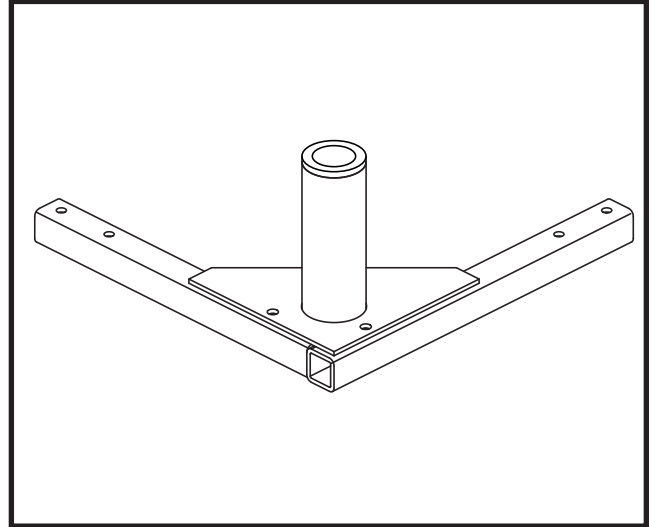
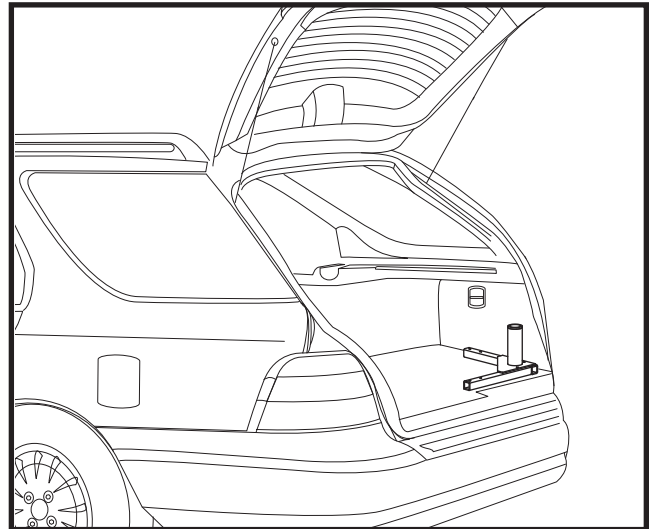
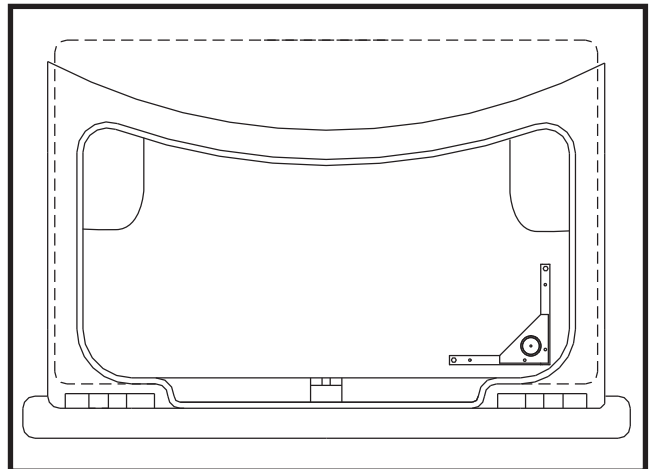

Figure 1. L-Base Assembly
Figure 2. L-Base (Hatchback Installation)
Figure 3. L-Base (Trunk Installation)
1. Before permanently installing the lift, place the L-base (see **figure 1**) inside your vehicle in the area in which you intend to install it. See **figure 2** for L-base positioning for SUVs and vehicles with hatchbacks, or **figure 3** for trunk installation.
Position the L-base as shown in **figure 3**. You may need to situate the L-base so the wheel well does not interfere with the L-base. Ensure there is adequate room for a mobility product to comfortably fit into the trunk.